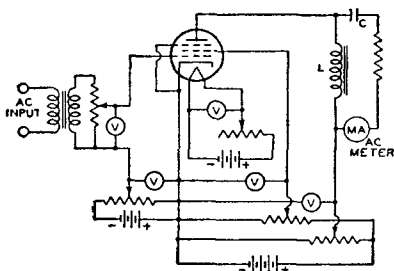

Fig. 82
Fig. 82 shows the fundamental circuit of a power-output test for class A operation of tubes. The diagram illustrates the method for a pentode. The ac output voltage developed across the plate-load impedance (L) is indicated by the current meter. The current meter is isolated as far as the dc plate current is concerned by the capacitor (C). The power output can be calculated from the current reading and known load resistance. In this way, it is possible to determine the operating condition of the tube quite accurately.